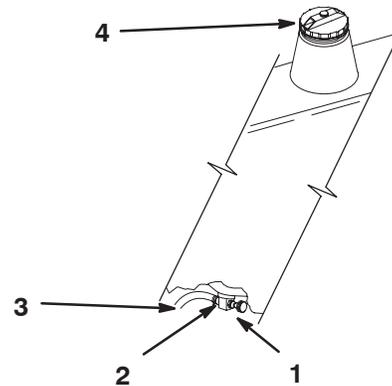

Figure 66
2. Close fuel shut-off valve at fuel tank (Fig. 66).
6. Open fuel shut-off valve at fuel tank (Fig. 66).
3. Loosen the hose clamp and slide it up the fuel line away from the fuel shut-off valve (Fig. 66).
4. Pull the fuel line off fuel shut-off valve (Fig. 66). Open fuel shut-off valve and allow gasoline to drain into a gas can or drain pan.
5. Install the fuel line onto the fuel shut-off valve. Slide the hose clamp close to the fuel shut-off valve to secure the fuel line (Fig. 66).